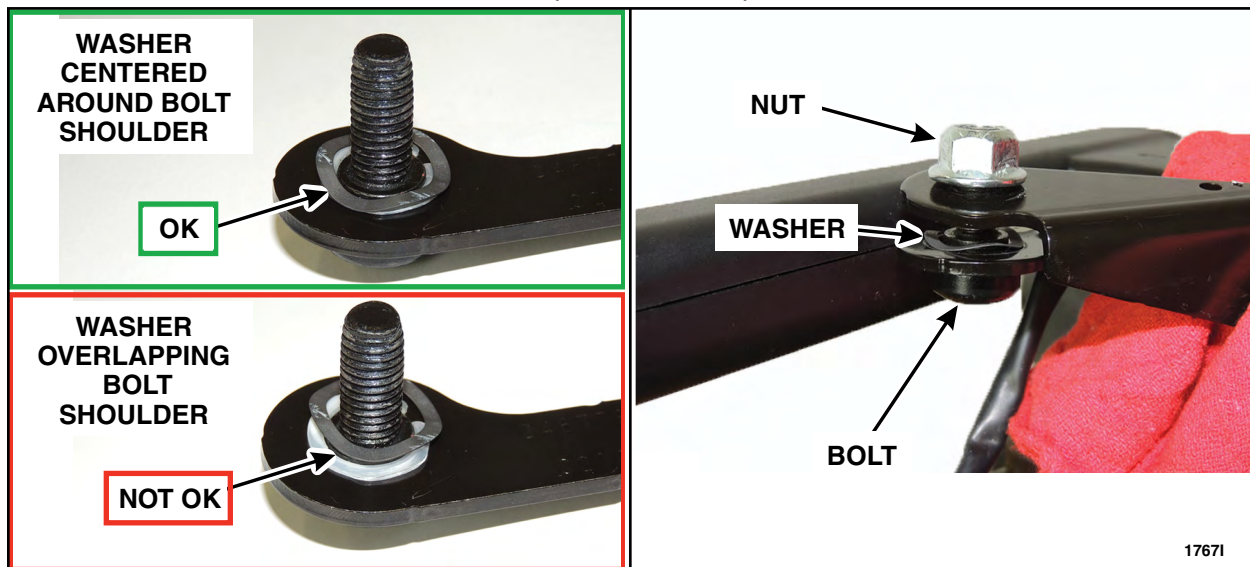

FIGURE 8
7. Place the shoulder of the bolt through the white plastic bushing on the inflatable seatbelt buckle anchor bracket. Install the bolt, wave washer and nut to secure the inflatable seatbelt buckle to the anchor bracket. See Figure 8.